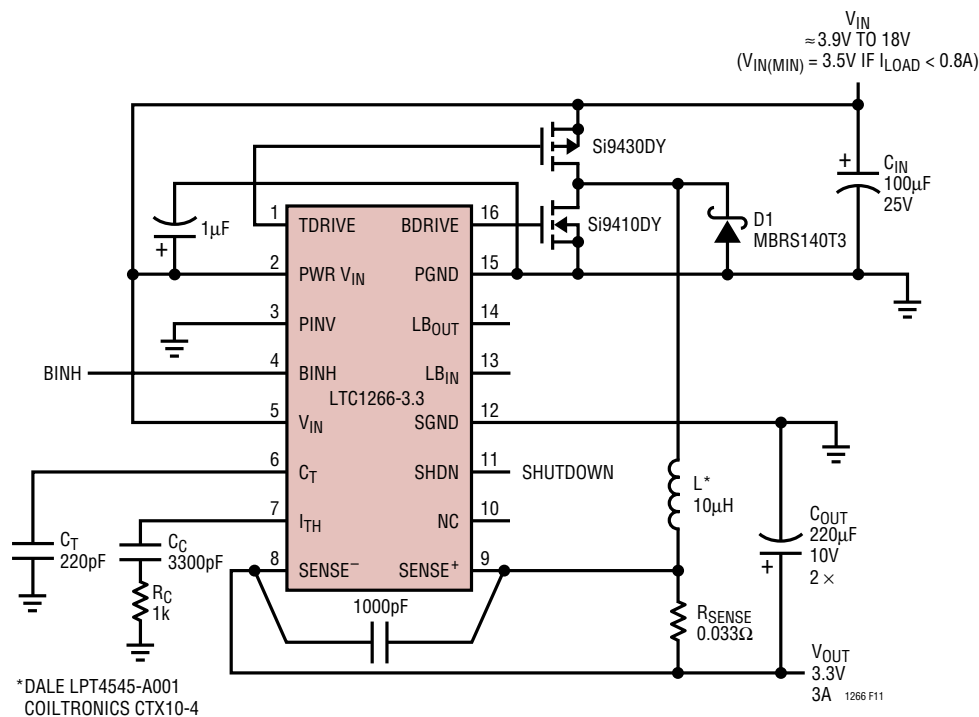

Figure 11. Low Dropout, 3.3V/3A High Efficiency Regulator
*These last calculations assume that Power  $V_{IN}$  is high enough to keep the topside FET fully turned on at dropout, as would be the case with the Figure 11 circuit. If this isn't true (as with the Figure 1 circuit) the  $R_{DS(ON)}$  will increase which in turn increases  $V_{MIN}$  and  $P_T$ .*